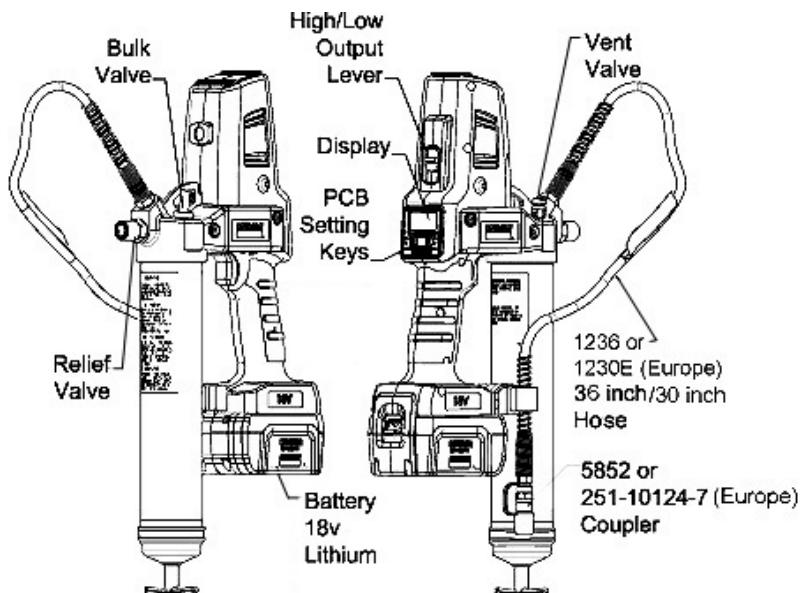

Figure 1
The safety valve (fig. 1) is factory set to relieve pressure above 7500 psi (517 bar). The valve also is an indicator of the bearing and lubrication line conditions. If grease comes out of the relief valve, it indicates a clogged or tight bearing or fitting or line. Correct this before continuing lubrication with the PowerLuber.
**When motor is not running**, push the lever (Fig. 1) until letter "L" or "H" will be completely visible in the window.
1. Prime the Power Luber after each refill or grease cartridge change. To prime, operate the gun until grease flows from hose. Use vent valve (Fig.1) to expel air pockets.